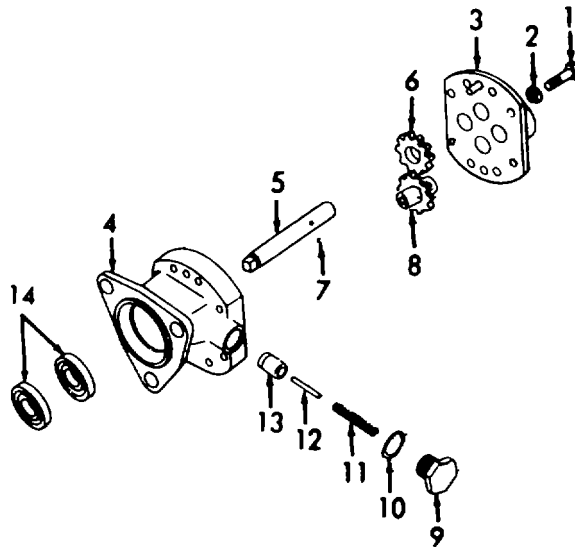

Figure 3-46. Fuel Pump, Disassembly/Reassembly.
b. Disassembly. (Refer to figure 3-46).
- (1) Mount the fuel pump in the fuel pump holding fixture.
- (2) Remove eight bolts (1), eight lockwashers (2), and cover (3). Take care not to damage the finished surfaces on the cover (3) and the body (4).
- (3) Remove the drive shaft, drive gear as an assembly.
- (4) Using an arbor press, press the drive shaft just far enough to remove ball (7). Then, invert shaft and gear assembly in press and press shaft (5) from gear (6).
- (7) Clamp the pump body in a vise. Use oil seal remover tool (figure 3-47) and remove inner and outer oil seals (14, figure 3-46).